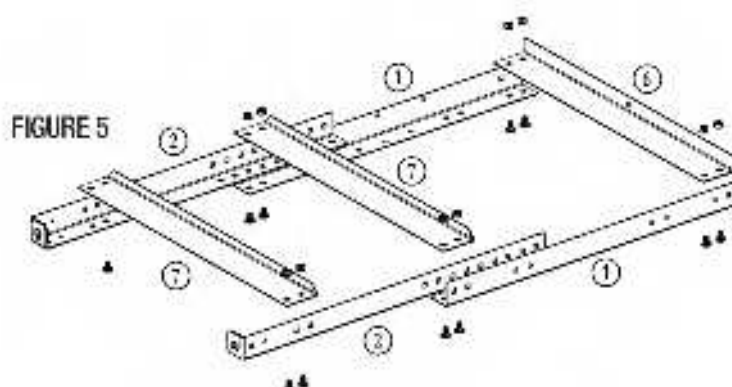
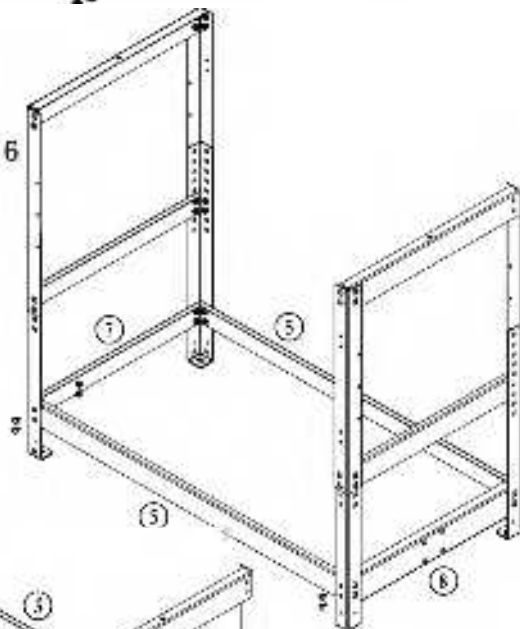

FIGURE 6
FIGURE 7
6. Insert the (2) Carriage Bolts through the assembly and secure using (2) Kep Nuts. The adjacent (2) Carriage Bolts and Kep Nuts will be installed later.
7. Attach one end of the Table Brace ⑥ to the Upper Leg. Make sure the flange with the hole is facing up, toward the top of the Leg.
8. Use (2) Carriage Bolts and Kep Nuts to attach the Shelf Brace ⑦ to the Lower Leg. Make sure the flange with the notched corners is facing up, toward the top of the Leg.
9. Attach the other Long Bottom Leg ② and the Upper Leg ① to the Table Brace ⑥, Shelf Brace ⑦ and Wheel Brace ④ using Carriage Bolts and Kep Nuts.
10. Place a Long Shelf Brace ⑤ between the previously assembled sides and secure using (2) Carriage Bolts and (2) Kep Nuts each side. **FIGURE 6.**
11. Install another Long Shelf Brace ⑤ on the opposite side of the first. You should now have two Braces installed.
12. Place another Long Shelf Brace ⑤ between the sides and secure using (2) Carriage Bolts and (2) Kep Nuts each side. **FIGURE 7.**
13. Install another Long Shelf Brace ⑤ on the opposite side of the first. You should now have four Braces installed.